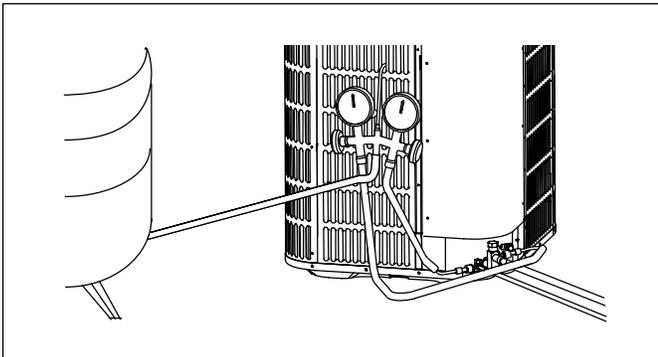

Figure 54
- Connect gauges to refrigerant bottle and unit as illustrated (Figure 54).